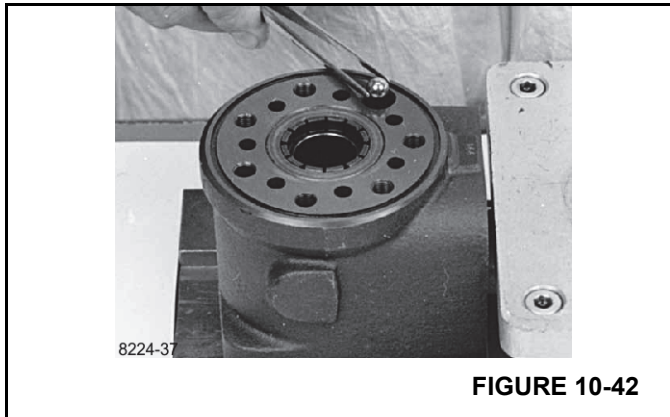

FIGURE 10-42
- 16. Turn the steering unit until the bore is vertical again. Put the check valve ball into the hole shown (Figure 10-42).